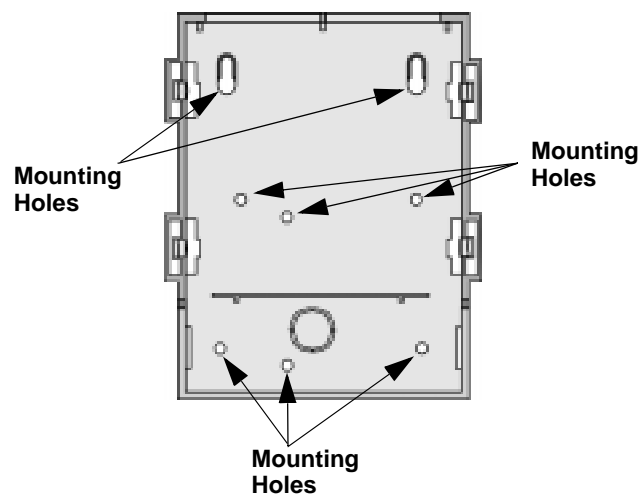

Figure 4-18 Base Mounting Holes
3. Mount the plastic base in a UL listed enclosure using any of the mounting holes in the plastic base. See Figure 4-18 for locations of base mounting holes.